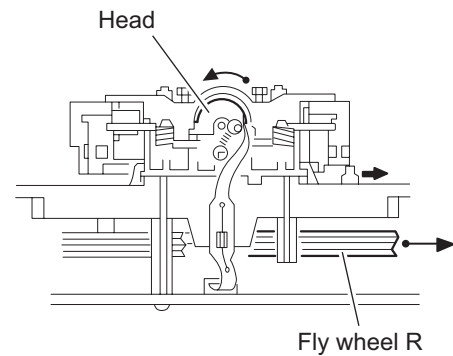

Fig.2
- (1) While moving the trigger arm on the right side of the head mount in the direction of the arrow, turn the flywheel R counterclockwise until the head mount comes ahead and clicks.
- (2) The head turns counterclockwise as you turn the flywheel R counterclockwise (See Fig.2 and 3).
- (3) Disconnect the flexible wire from connector **CN31** on the head amplifier & mechanism control board.
- (4) Remove the spring from the back of the head.
- (5) Loosen the azimuth screw for reversing attaching the head.
- (6) Remove the head on the front side of the head mount.